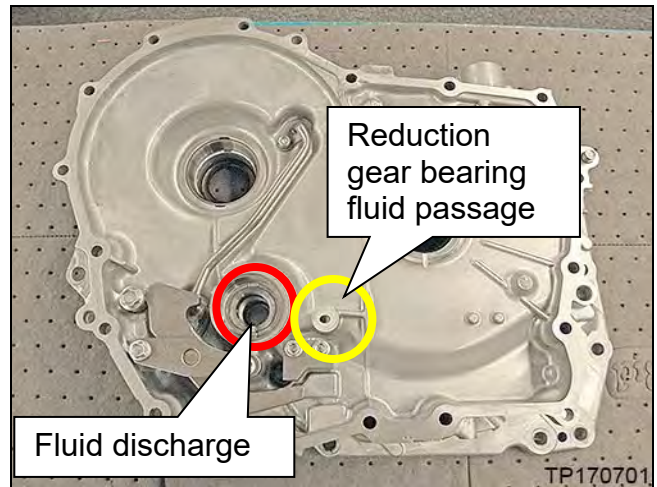

Figure 7L
**CAUTION:** Do not face the passage indicated in red of Figure 7L while cleaning.